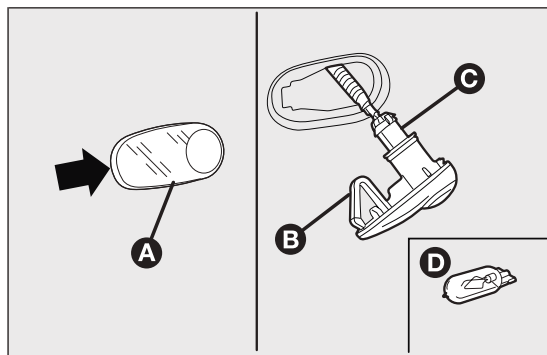

fig. 144
- adjust the lens A fig. 144 to compress in the internal catch B, then pull the cluster outwards;